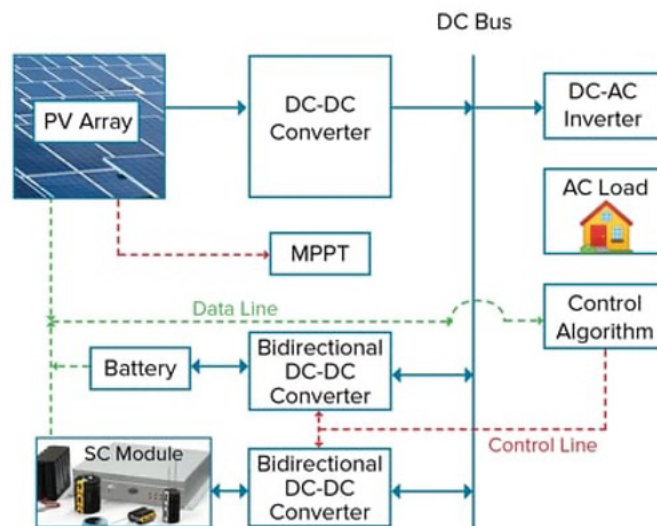

Figure 5. Photovoltaic microgrids are hybrid energy storage systems featuring both batteries and supercapacitors.
Some energy storage systems combine supercapacitors with batteries to form hybrid energy storage systems (HESS). These are common in applications like the photovoltaic (PV) microgrids found in homes and neighborhoods (Figure 5). Microgrids are weak electrical grids, so they're sensitive to load generation changes. A HESS decreases the impact of variations in load.